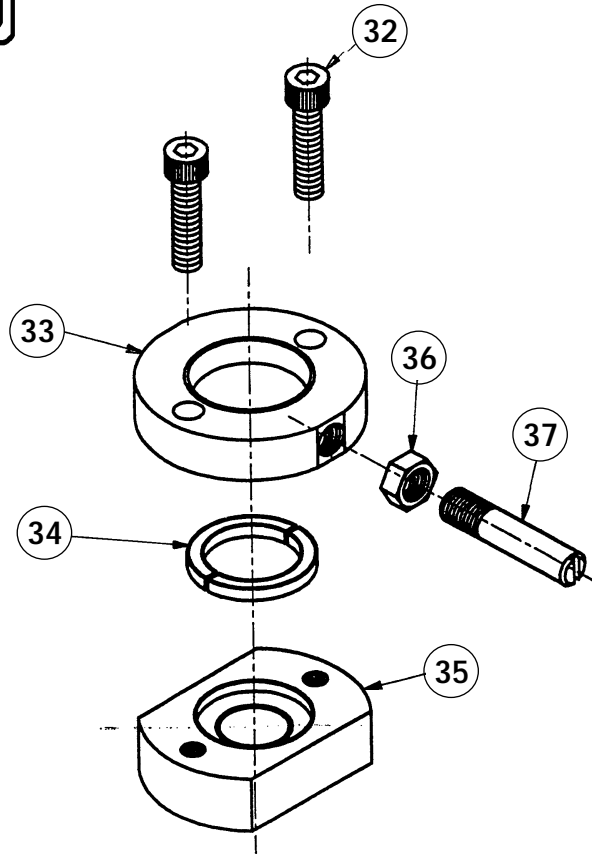

FIG. 2
3c. i.) For 13", 16" and 20" diameter actuators: (See Fig. 2) Support valve plug/stem assembly so that it does not fall back onto seat, causing damage to seating surfaces when stem is freed from actuator. Remove two socket head capscrews from actuator/stem adapter to disconnect valve stem from actuator stem. Remove hex head bolts holding actuator yoke to bonnet and lift off actuator. (Eyebolts may be attached to cylinder tie bolts or unit may be lifted with straps.)
5. (See Fig. 2 & 9) Remove actuator stem adapter (on 13", 16" & 20" actuators only), stem nut, travel indicator, packing flange, and packing follower. (See Fig. 9) On Anti-Vibration Act/Stem Adapter, Loosen two socket head capscrews that lock stem adapter to stem.